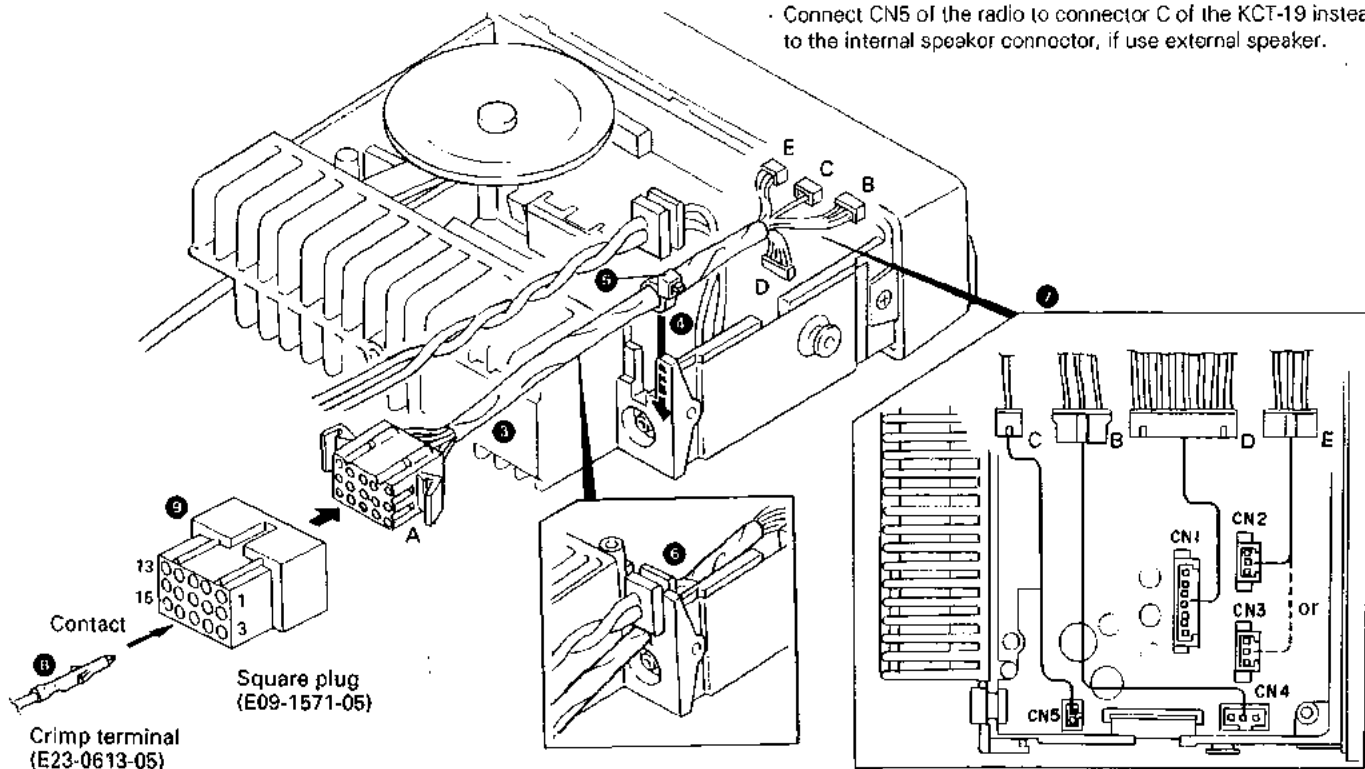

Fig. 7
3. Insert the KCT-19 cable (3) into the chassis (4). The wire harness band (5) must be inside the chassis.
4. Relocate the DC cord bushing in the chassis (6).
5. Connect the KCT-19 to the TX-RX unit (A/2) as shown in Figure 7 (7).
6. Connect the KCT-19 to the external accessory by inserting the crimp terminal (8) into the square plug (9), both of which are supplied with the KCT-19.